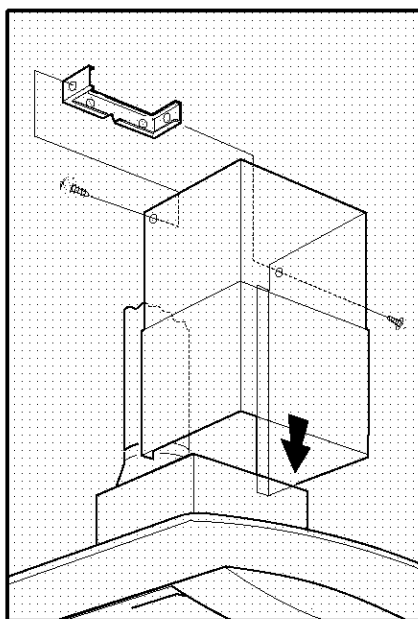

Figure 6
7. Install duct cover as shown in Fig. 6.